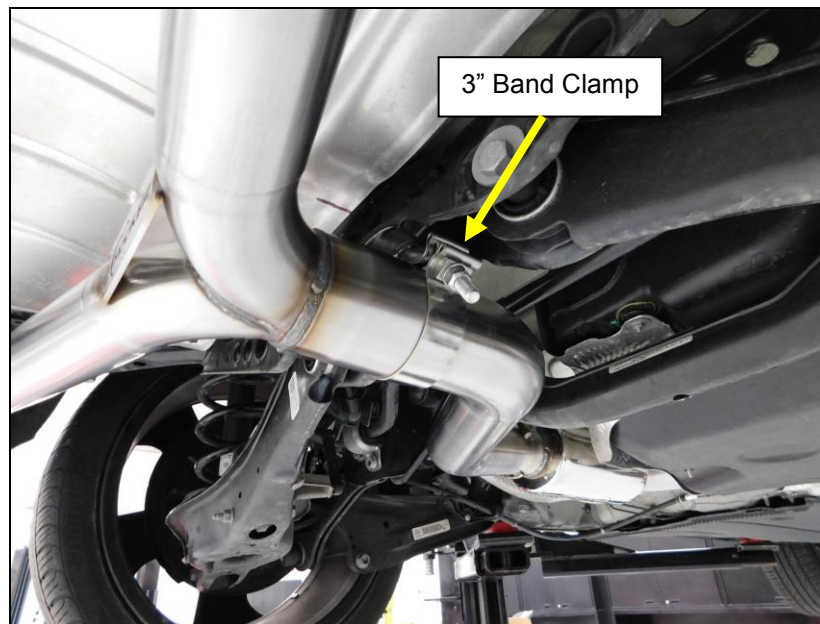

Figure 4
5. Install the provided 3" band clamp over the expanded and notched inlet of the Blackheart tailpipe assembly. Align the bolt at the two o'clock position and the nut facing down. Do not tighten the clamp (**Figure 4**).